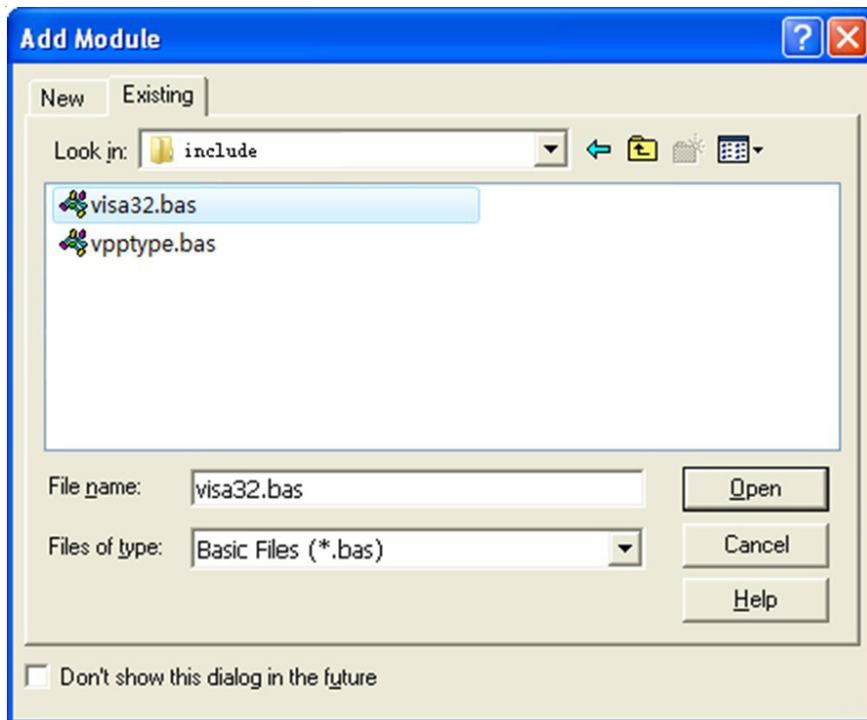

Figure 4-2-1
2. Choose **Project-> Add Module->Existing**; find the **visa32.bas** file in the Add Module under the path of NI-VISA: C:\Program Files\IVI Foundation\ISA\WinNT\include, and then add it. See figure 4-2-1.